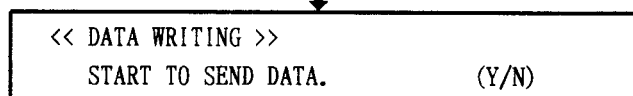

Fig. 2-10
- 3) Press **[Y]** to start. (Figs. 2-10, 2-11)
Note 2: Press **[N]** to return to MAIN MENU. (Fig. 2-10)